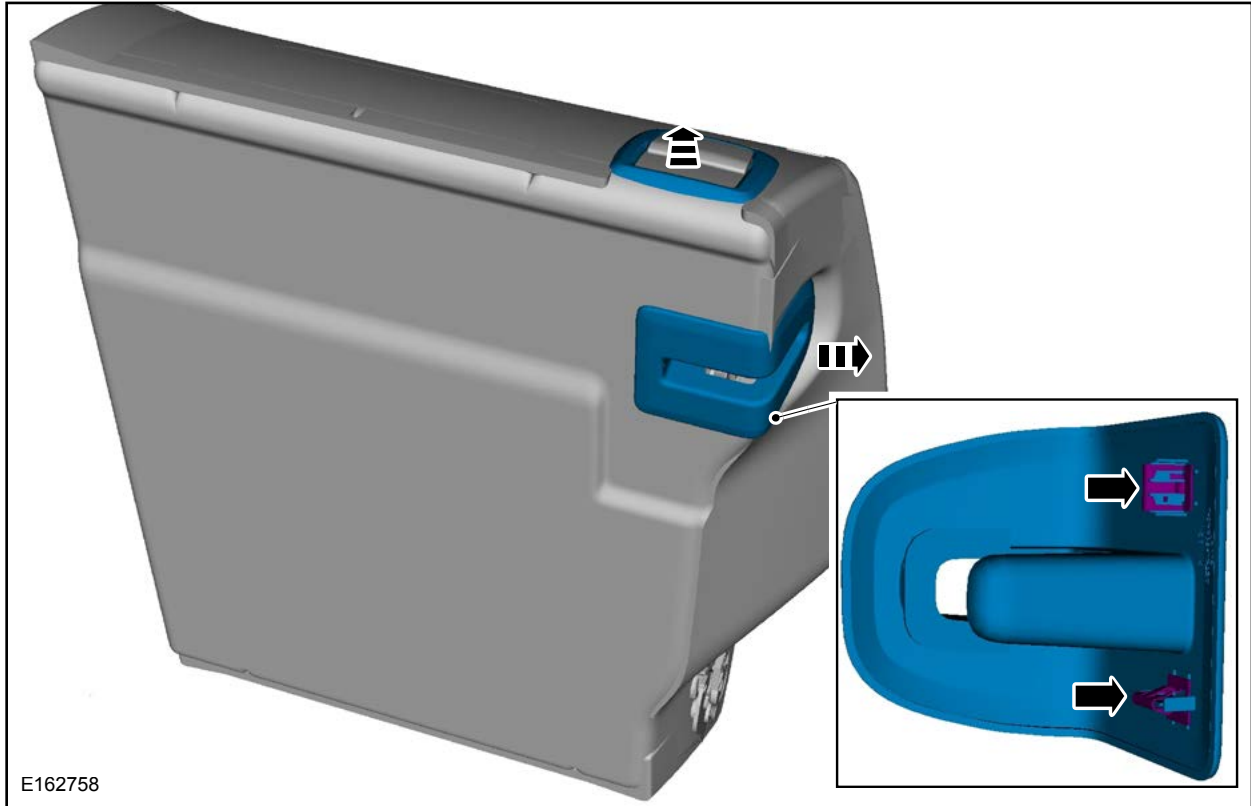

FIGURE 2
5. Release the clips and remove the latch and release handle bezels. See Figure 2.